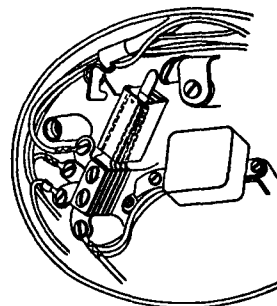

Fig. 6.
6.01 The cover, designated KS-8253 and shown in Fig. 6 in position on the double make contact springs of the D1 Hand Set Mounting, consists of two channel shaped parts made of cellulose acetate. This cover may be applied on any of the spring pileups on B or D-type mountings. Before applying, contacts to be covered should be cleaned by blowing the dust out with Chip Syringe No. 23 (with valve) or by brushing the contacts with DHS 12463 Brush or the equivalent and then immediately burnishing the contacts with the No. 265 B Tool. If mounting is equipped with a filter unit, loosen the filter bracket mounting screws and temporarily swing filter toward front of the mounting.